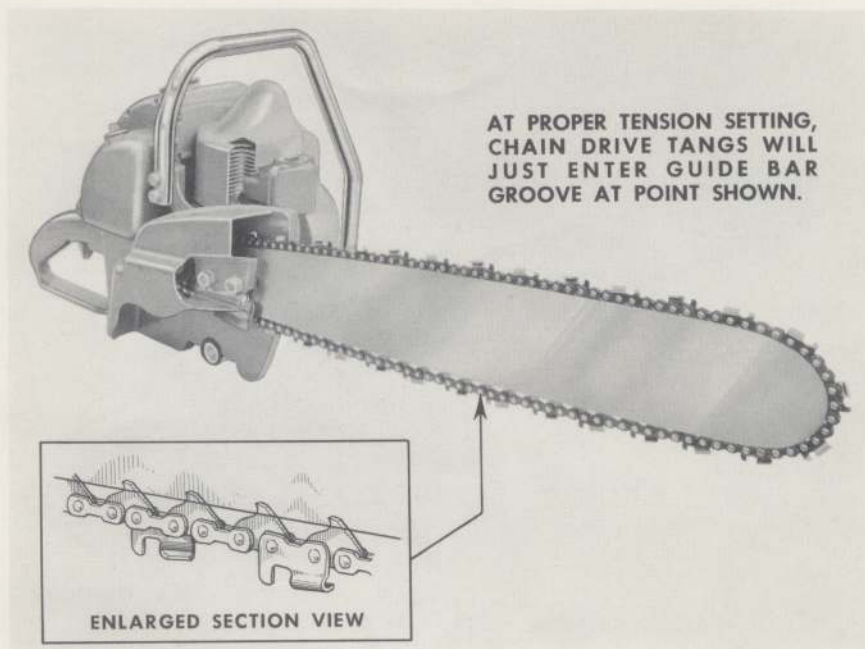

Figure 3—Adjusting Chain Tension
d. Adjusting Chain Tension (See figure 3.)
(1) Hold up the tip of the guide bar to take up the play between the studs and the mounting slot. The guide bar must be held in this position until the chain tension has been adjusted and mounting stud nuts have been tightened securely. Otherwise the guide bar will shift on the first cut, changing the tension.
(2) Turn the chain tension adjusting screw clockwise until the drive tangs *just* enter the guide bar groove at point shown in figure 3.
(3) At the same point shown in figure 3, grasp the chain between thumb and forefinger—pull it downward—then release.
(4) Once again turn adjusting screw clockwise until the drive tangs *just* enter the guide groove shown in figure 3. Now tighten the hex nuts to lock the tension device at this setting.
(5) New chains always stretch slightly during the first half hour of operation. Keep the new chain generously lubricated while breaking it in. Shut off the engine after every few cuts and check the chain tension. Readjust the chain tension if necessary.